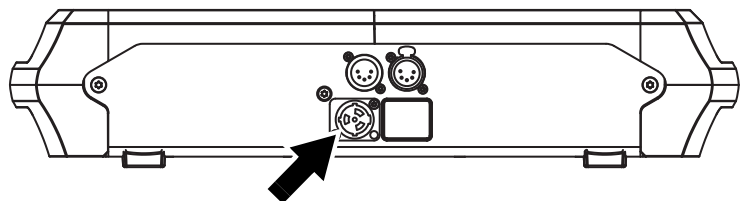

Figure 8: Mains input socket
2. See Figure 8. insert the TRUE1 power connector into the Mains Input socket (arrowed) and twist clockwise to engage.
The MAC Encore Performance has 5-pin locking XLR sockets for DMX and RDM input and output (see Figure 8 on page 11). The default pin-out on both sockets is: